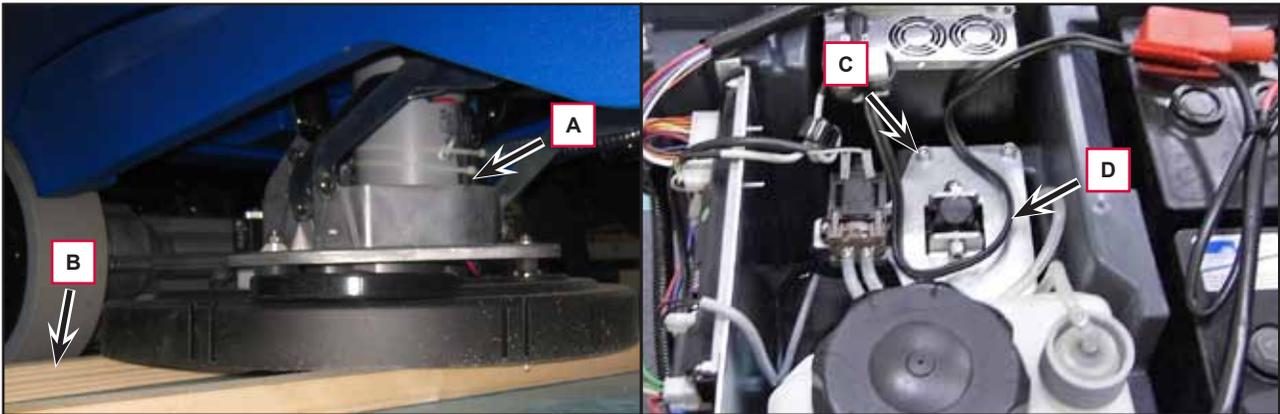

Figure 7
3. Place two wooden shims (B, Figure 7), at least 4 cm thick, under the brush deck (A).
9. Remove the 4 screws (C) and remove the actuator plate (D).